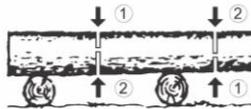

Fig. 24
A log positioned above the ground (Fig. 24). In area (1), cut upwards one third from the bottom and finish by electro-saw cutting from top to bottom. In zone (2) cut from top to bottom one third and finish by cutting with the electro-saw from bottom to top.